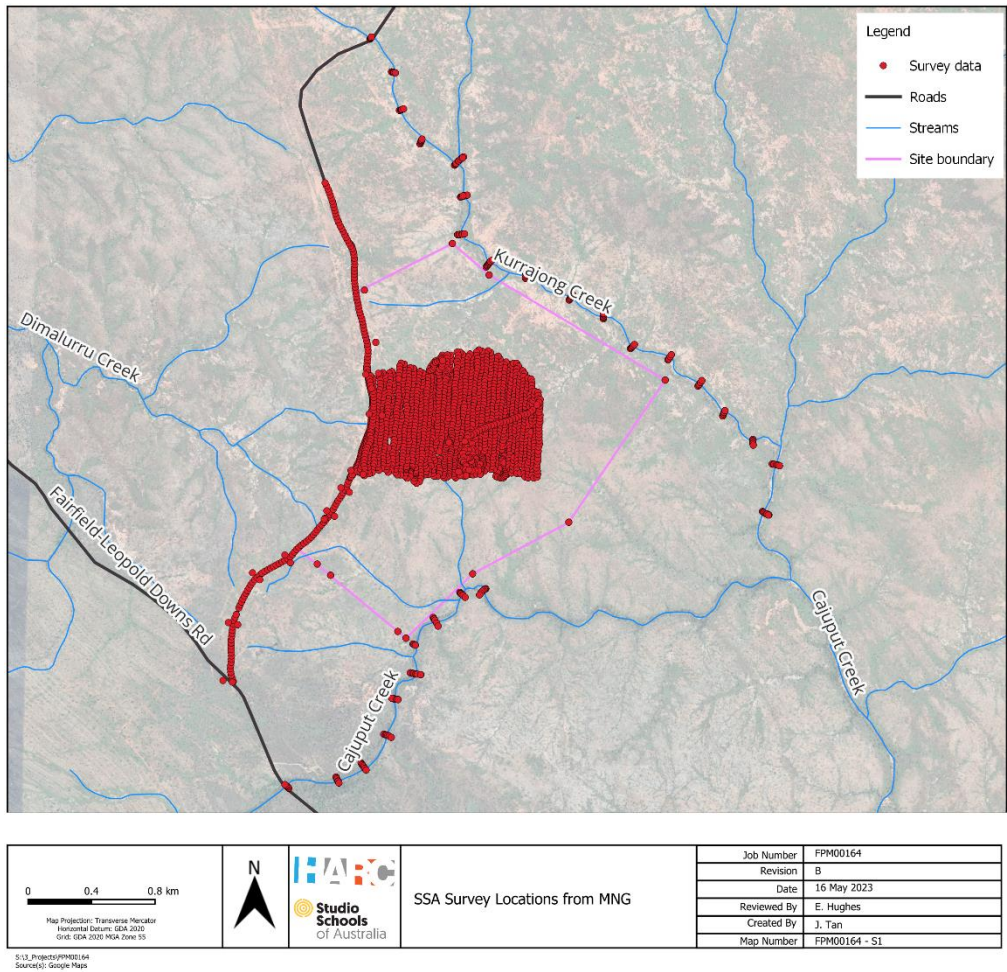

Figure 2-1: SSA Survey Data Locations from MNG
- Survey data of the SSA site around the project site, adjacent road and main streams as seen in Figure 2-1 was collected by McMullen Nolan Group (MNG).